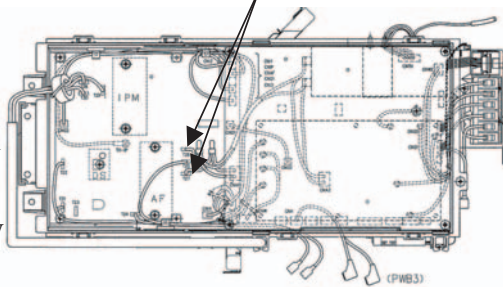

Fig.2 Position of terminal
(Be sure to measure voltage (DC) on both capacitor terminals located in controller back, and **check that the voltage is discharged sufficiently.**(Refer to Fig.2))